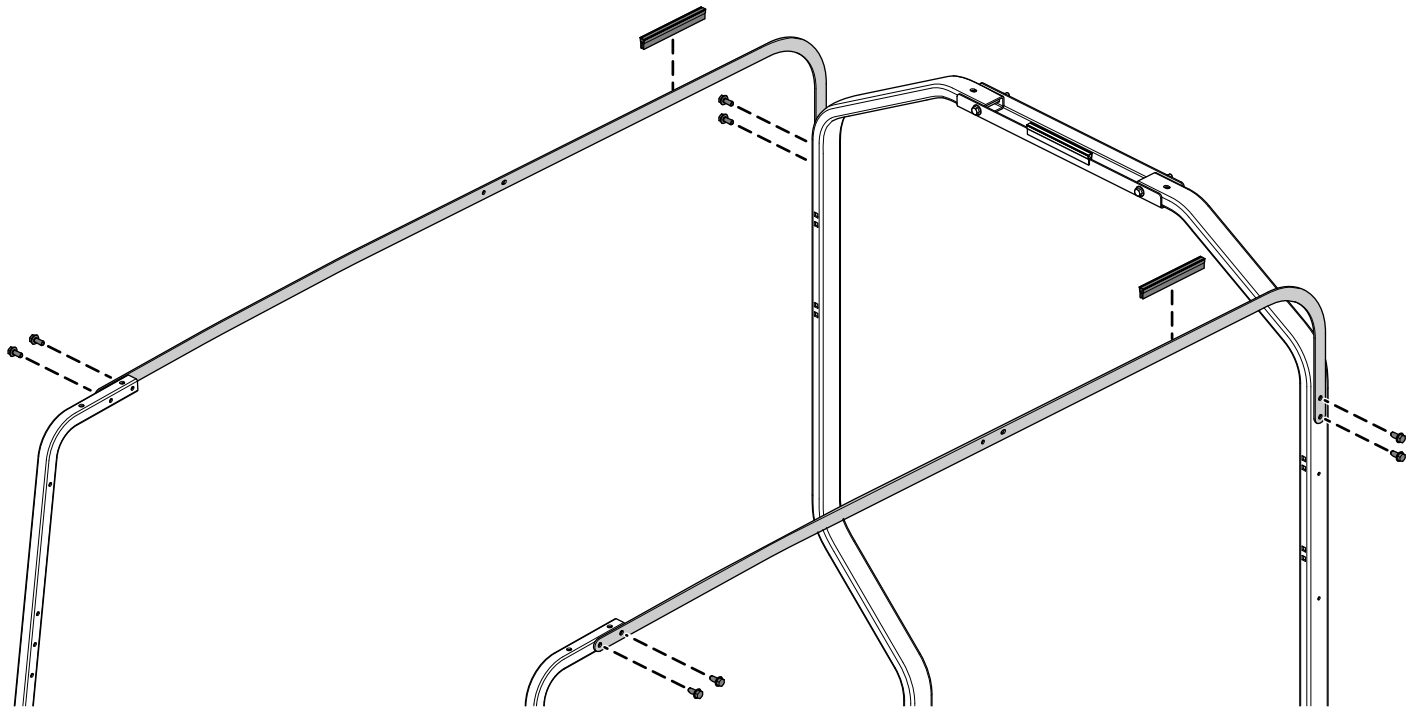

Figure 14
1. Secure the 2 long canopy support brackets to the front and rear mounting tubes using 8 hex-washer head bolts (5/16 x 3/4 inch) as shown in Figure 14.
2. Install the 2 trim seals onto the 2 long canopy support brackets (Figure 14).